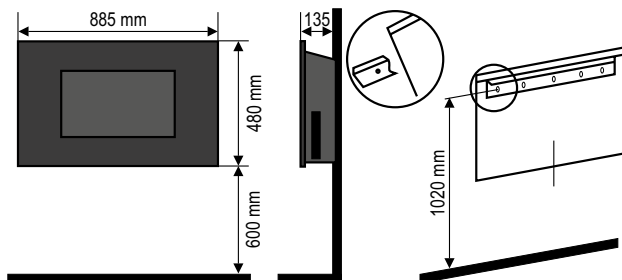

Figure 3 • 3. ábra • 3. obrázok • fig. 3. • 3. skica • 3. obrázek • Slika 3.
7. According to Figure 3, fasten the wall mount (9) horizontally to the wall at the desired location using the included screws and dowels. The recommended 600 mm installation height is not mandatory, however, the minimum height of 300 mm above the floor must be observed. The wall mount should be flush with the wall. Please take into account the wall's bearing capacity.
8. Using the 2 included small screws attach the lift-off prevention plate (10) onto the bottom of the heater so that the plate is flush with the wall surface.